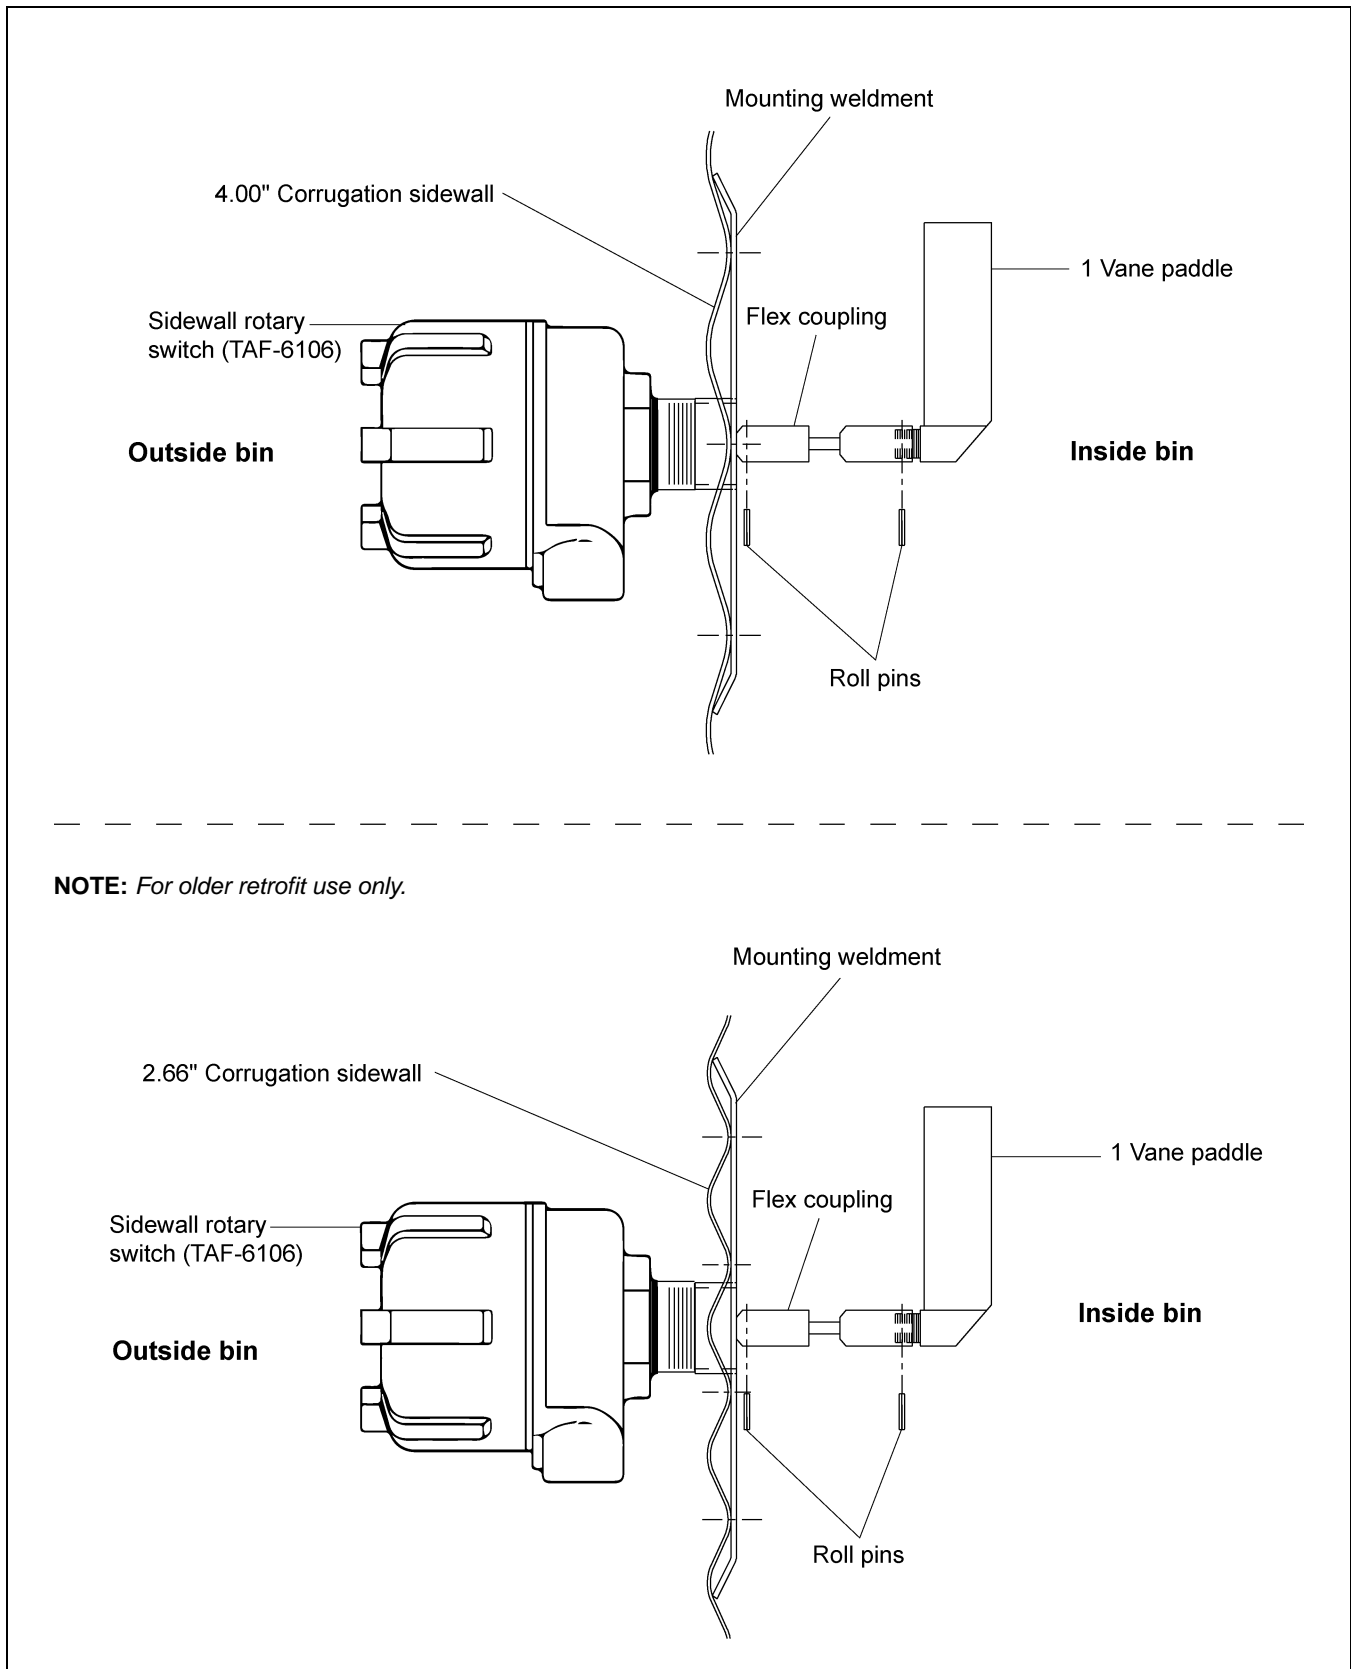

Figure 3R
4. Use the mounting plate as a pattern and drill four (4) 3/8" holes through the sidewall at the switch location so the plate can be bolted to the bin.
9. Attach the 1 vane paddle to the flex coupling as shown in Figure 3R on Page 33.